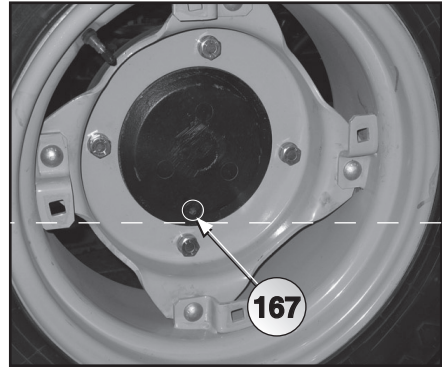
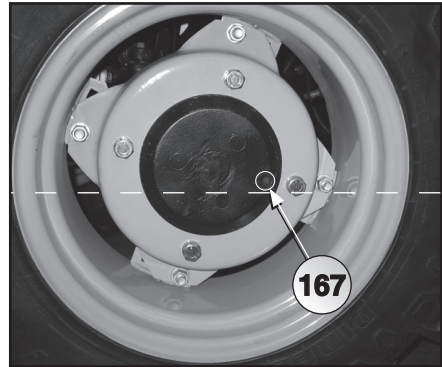

Fig. 6.42
Fig. 6.43
- Position the tractor so that the plug (167 Fig. 6.42) is at the lowest point of the tractor itself.
- Remove the plug (167) and let all of the oil in the reduction gear drain out.
- Position the tractor so that the plug (167 Fig. 6.43) is on the horizontal center line of the tractor itself.
- Replenish the case with **BCS POWERLUBE W13T oil** (0.8 Kg RS-RS/MT-DS tractor) up to the edge of the plug (167).
- Then replace the plug (167).